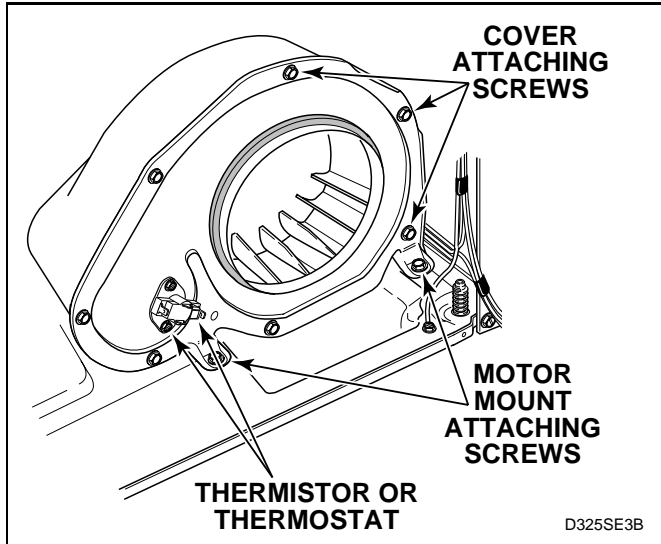
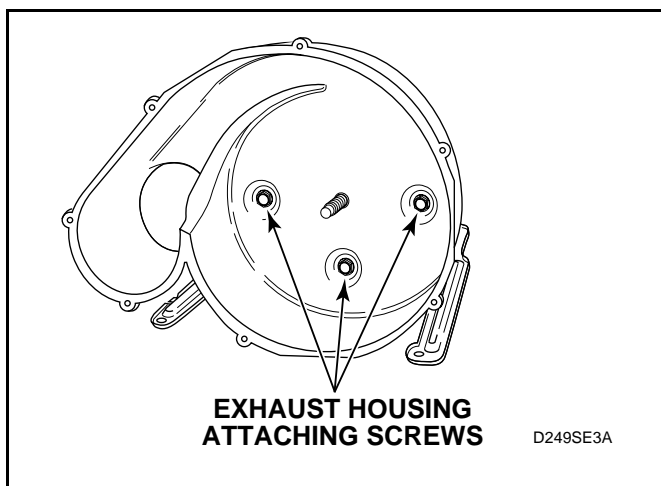

Figure 40
Figure 43
**IMPORTANT:** When reassembling, be sure seal on exhaust fan cover makes airtight seal on flange of duct. See *Figure 40*. If the seal is installed improperly, the airflow through the exhaust system will be restricted, which can adversely affect dryer performance.
- Remove two screws holding motor mounting bracket to dryer base. See *Figure 40*.
- (1) Remove screws holding cover to housing. See *Figure 40*.
- (2) Hold motor pulley securely and unthread impeller from motor shaft (right hand thread). Use a 7/8 inch, 6 point socket to aid in the removal of the impeller.
- (3) Remove three screws holding the exhaust housing to the motor mounting bracket. See *Figure 43*.